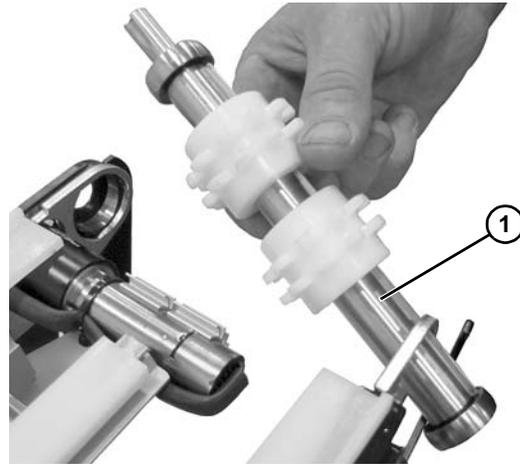

Figure 68
11. Remove spindle (Figure 68, item 1).